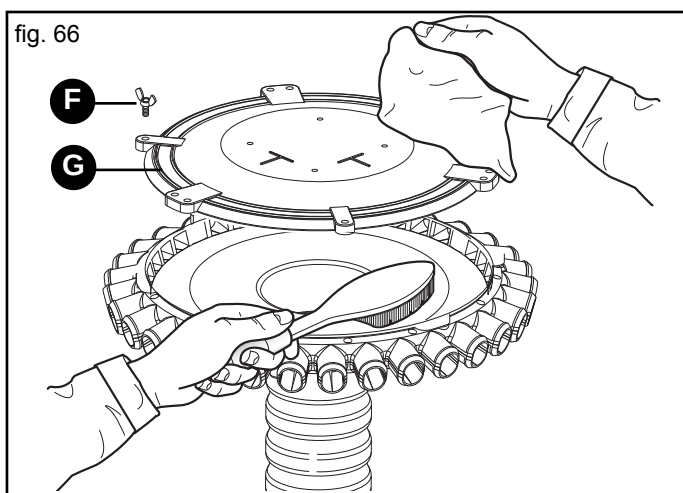
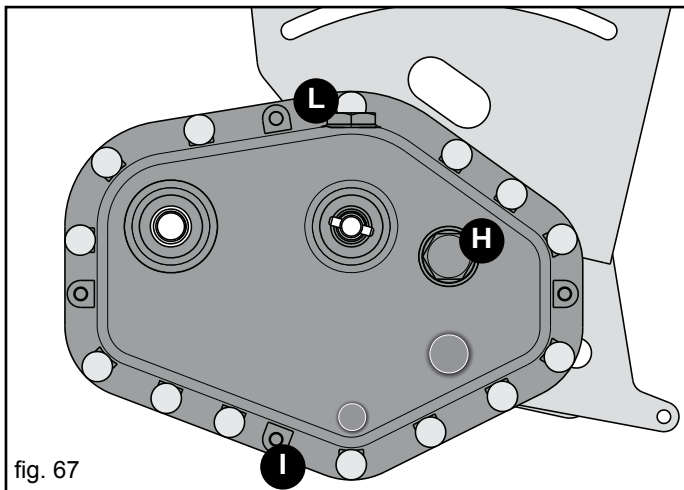

fig. 66
fig. 67
- Thoroughly clean the entire distribution head (Fig. 66) as follows:
- loosen and remove the wing nuts (F);
- remove the cover on the distributor (G);
- Check the oil level in the gearbox and top up to level (Fig. 67, «H») whenever necessary using the same type of oil (SAE 10W) whenever possible.
- oil drainage plug (I, Fig. 67);
- oil filling plug (L, Fig. 67).